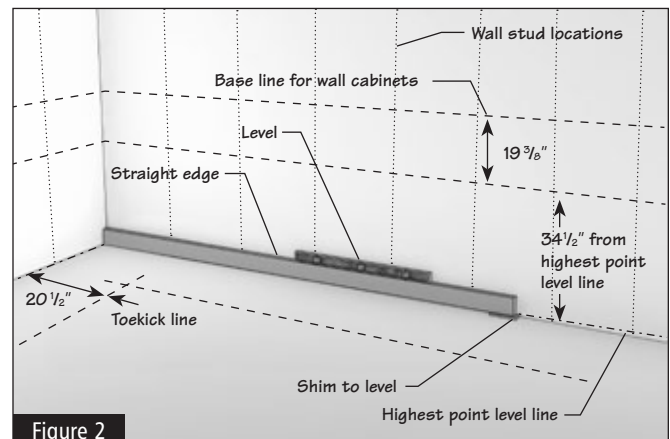

Figure 2
- 1.2** Measure up from the high point  $34\frac{1}{2}$ " and draw a level line across the wall to establish the top of the base cabinets. If installing cabinets before your flooring, be sure to allow for the thickness of the material you plan to use. (Figure 2)
- 1.3** Then measure up from there another  $19\frac{3}{8}$ ". This will be the baseline for the wall cabinets. (When you are finished, the wall cabinets will sit at  $53\frac{7}{8}$ " above the high spot in the floor). (Figure 2) Please refer to your design elevations to verify dimensions specific to your layout